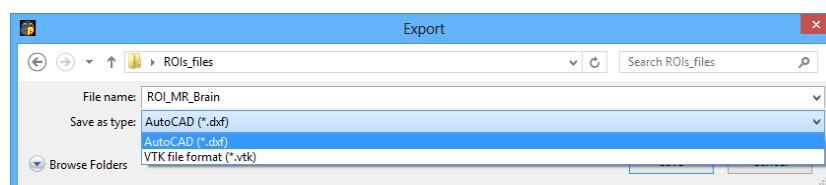

Figure 241 – Export dialog
2. Select the desired file format, the file name and the target folder in the displayed **Export** dialog (see Figure 241).